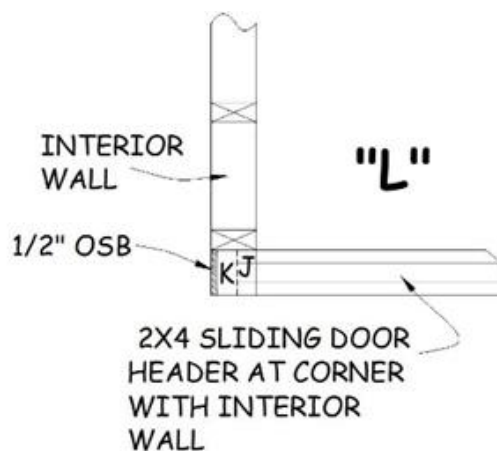

Figure 3-11. Interior L-Corner in Flush Sliding Door.
- Referring to the House Plan, check for flush sliding closet walls that end at an inside corner of the closet (typically adjoining the 25” closet end wall). Similar to a plumbing wall, lay out the end of the flush sliding wall with a 3½” sandwich of Jack stud, King stud, and ½” of OSB (see Figure 3-11).
- a. The short wall next to the tub/shower will typically be 36" long. As usual, layout studs on 24" centers starting at the intersecting wall. At the opposite end, layout a 2x4-2x6 L-corner similar to that shown in Figure 3-11, with the 2x6 base of the L on the surface facing the tub. This will provide vertical blocking to which the shower flange can be attached, 31½" from the wall.